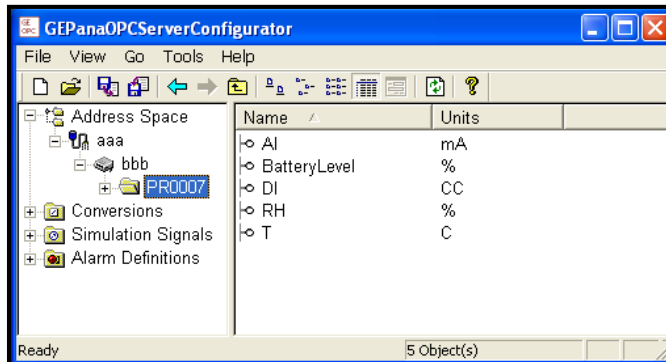

Figure 35: Viewing Sensor Units in the Sensor Window
2. Click on the **Details** button. The screen now appears similar to Figure 35 below.